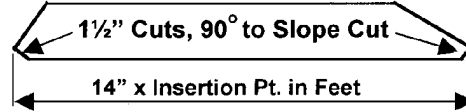

Figure:2 TO DETERMINE THE APPROXIMATE LENGTH OF A RAKE
- The Diagonal Method (**Figure: 2 on O/H - 18**)